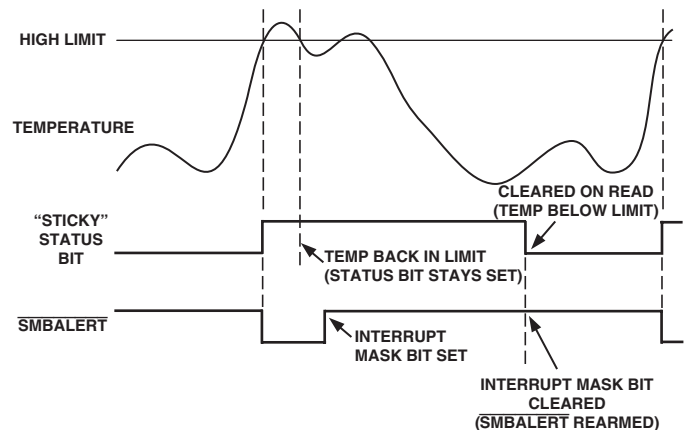

Figure 24. How Masking the Interrupt Source Affects $\overline{SMBALERT}$ Output
7. Periodically poll the status registers. If the interrupt status bit has cleared, reset the corresponding interrupt mask bit to 0. This will cause the $\overline{SMBALERT}$ output and status bits to behave as shown in Figure 24.